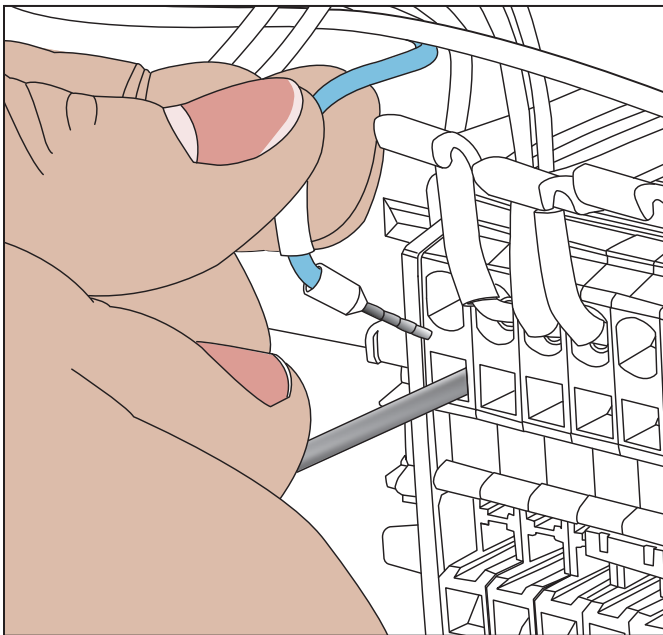

Figure 22
17. Slowly insert the end of a small, flat-head screwdriver straight into the slot above or below the wire (see **Figure 22**).